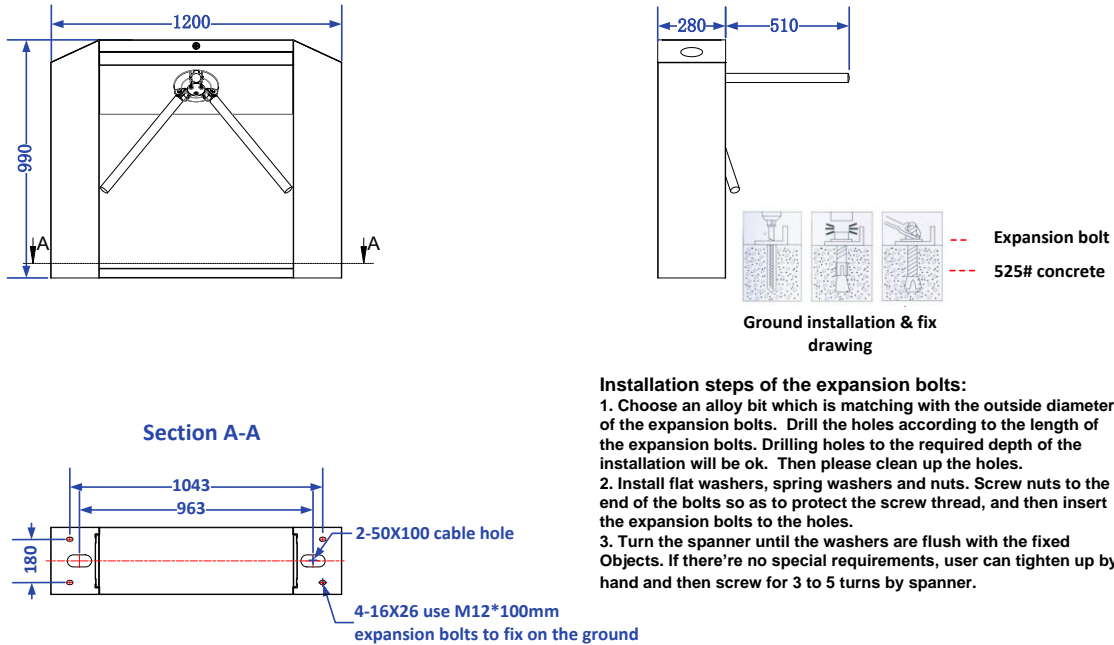

Figure 6.1.2
(1) Prepare necessary tools for installing turnstile and pick out the auxiliary parts according to the packing list.
(2) Confirm the system constitution and operating mode. Get ready for installation after finishing system planning.
(3) Drill holes after confirming the positions. Pre-bury N*4 M10 expansion bolts as shown in Figure 6.1.2.